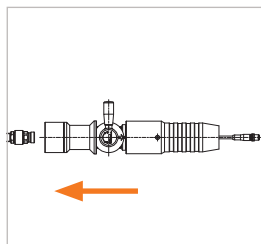

Figure 6
- ▶ Push the fueling nozzle onto the receptacle on the vehicle until it stops and hold the nozzle in this position (OFF position) (*Figure 6*).